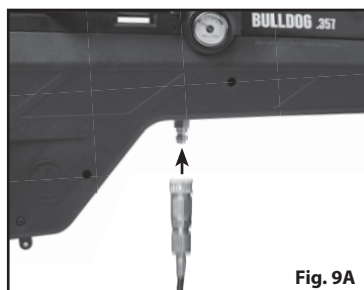

Fig. 9A
5. Attach the quick disconnect fitting from your filling equipment to the fill nipple on the airgun (See Fig. 9A).